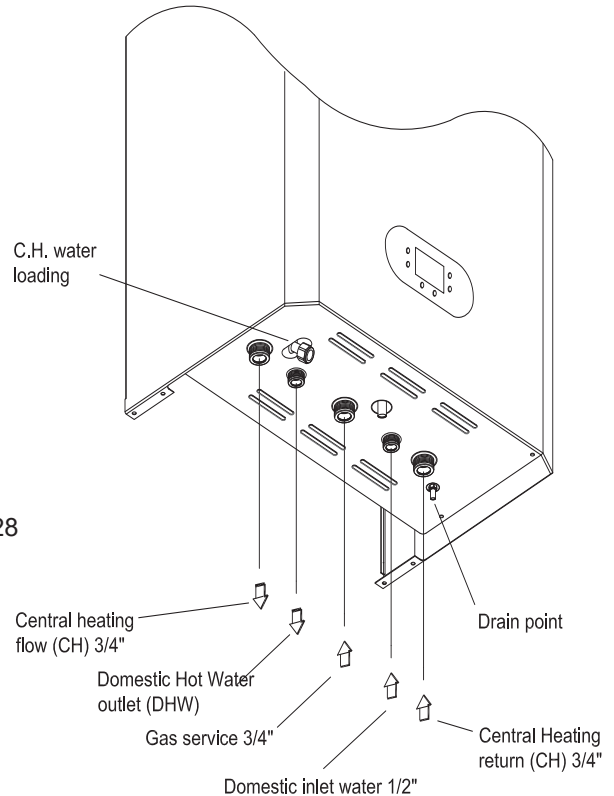

Fig.28
Remove plastic caps from boiler connection and fit valves as per fig. 28 using the washers provided.
5.21 GAS CONNECTION (Fig. 28)
5.23 DOMESTIC HOT WATER CONNECTION (Fig. 28)